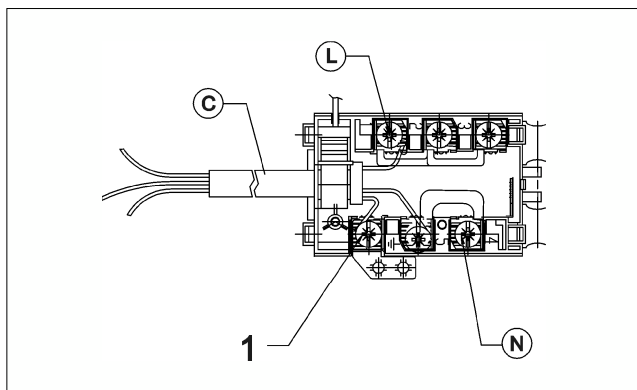

FIG. 8
- apply to the input cable "C", if unprovided, a normalized plug adequate to the load indicated in the identification label. Connect the cables according to the scheme of fig. 8 - 9 - 10, making sure to respect the undermentioned correspondences: